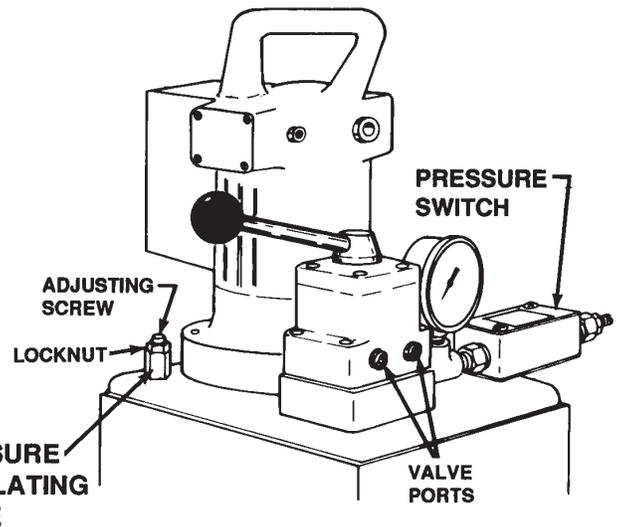

FIGURE 5
The pressure regulating valve (see Figure 5) can be adjusted to bypass oil at a specific pressure setting so that the pump will continue to run.
1. Place pipe plugs in valve ports. See Figure 5.
2. Loosen the locknut on the pressure regulating valve. Turn the adjusting screw a few turns counterclockwise to decrease the pressure setting to a lower than desired pressure. See Figure 5.